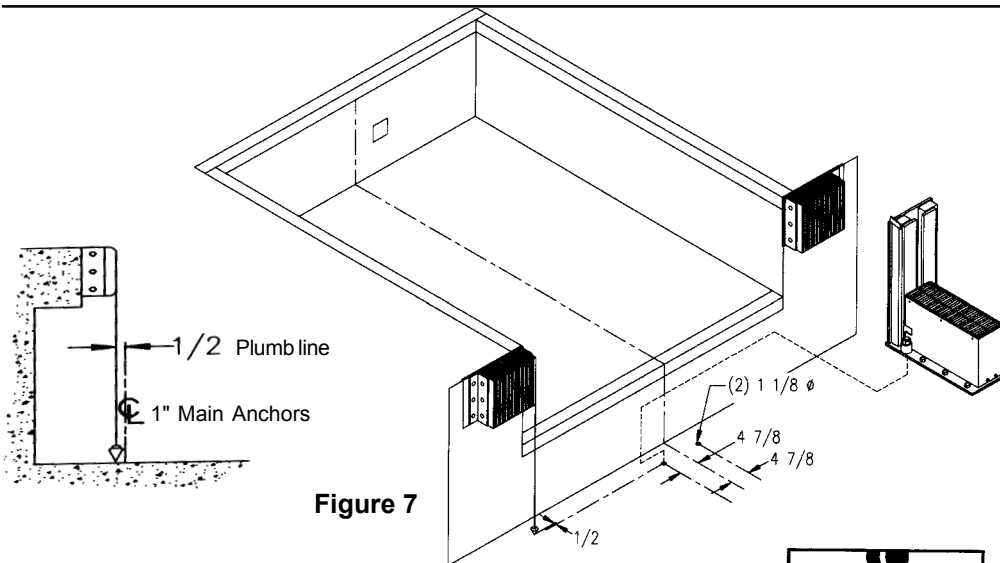

Figure 7
3. Position the Automatic Truck Restraint in the center of the dock/door opening with the primary (1") anchor holes located 1/2" ahead of the bumper face as shown in Figure 7. After locating and marking the primary anchor locations (qty. 2) on the drive surface, drill 1-1/8" diameter holes 7 to 7-1/2" deep. If drill breaks through concrete at a depth of less than 6", consult factory. The remaining (6) 3/4" anchor holes can be drilled at this time.